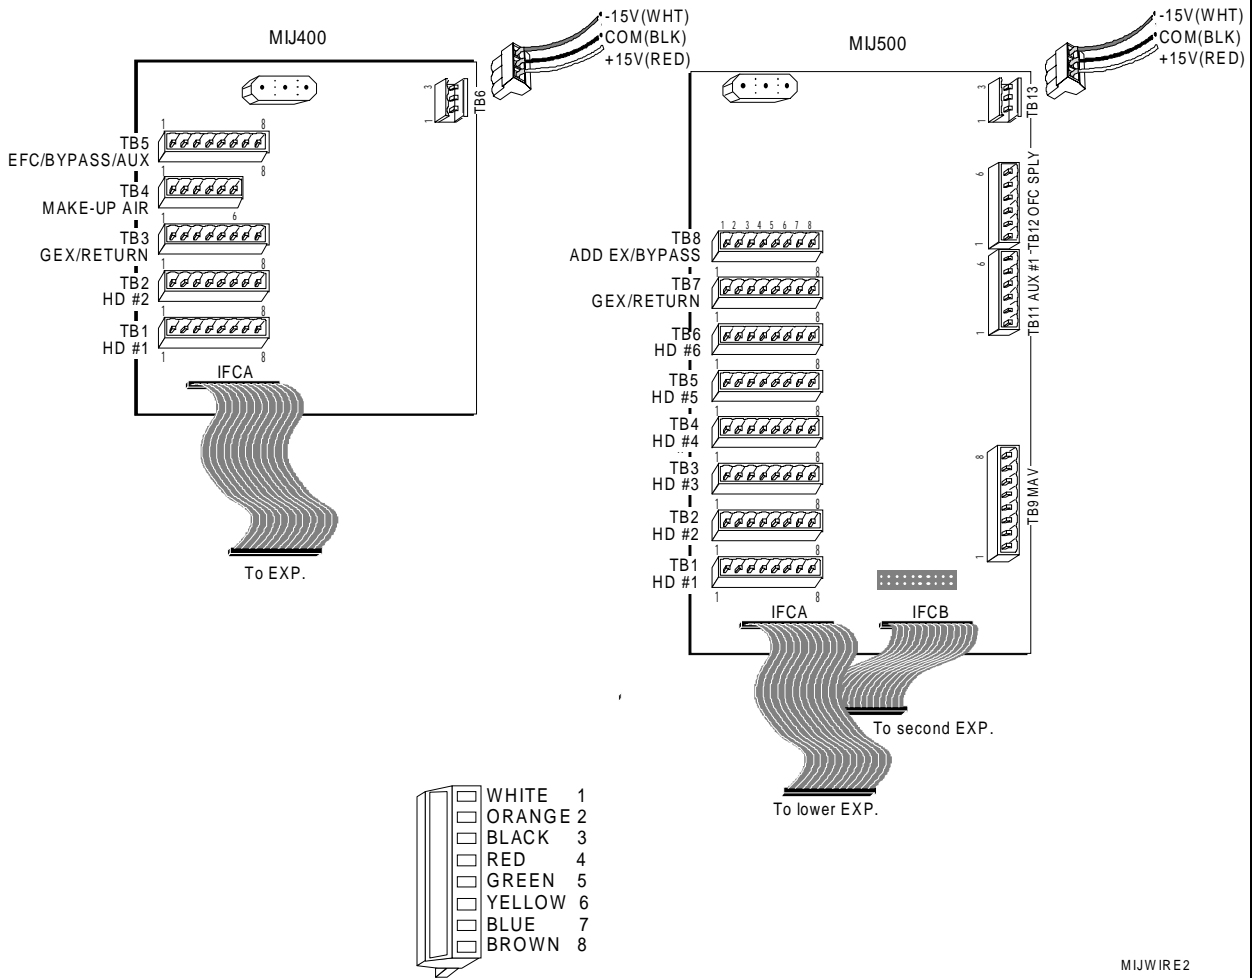

Figure 11: Wiring the MIJ400 and MIJ500
2. Using the color code, attach each wire to the connectors on TB1 through TB12. See Figure 11. Leave enough slack so that the cable for the fume hood and the makeup air valve reach the correct connectors at the bottom of the MIJ board. Label each connector.
4. Plug the 40-pin ribbon cable from the lower EXP board to the lower left Interface Connector A (IFCA) on the MIJ board. See Figure 11.
6. Before connecting the 3-conductor power connector to the MIJ, measure the voltage on this connector. Turn the AC power switch on and measure 15 +/- 0.1 VDC on the red wire referenced to the black wire. See Figure 11. Measure -15 +/- 0.1 VDC on the white wire referenced to the black wire. If these are correct, turn off the AC power switch and plug the 3-conductor connector onto the upper right connector (TB13) of the MIJ500, TB6 of the MIJ400). A Phoenix Controls trained technician/engineer may now start up the PHX Lab/Fumehood Controller.